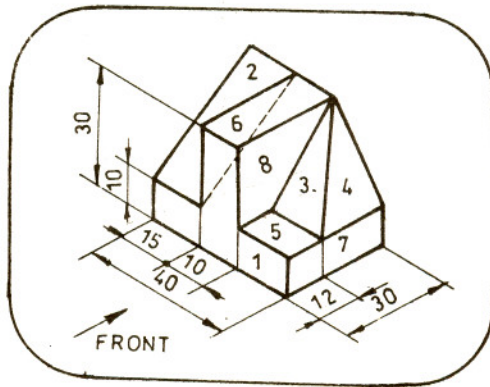

FIG. 2
- Q3 Figure 2 shows the orthographic projections of a solid 10+5
Q. 3, Fig. 2.
Q 3 Fig 2 shows the isometric view of a solid. Draw to a suitable scale in I angle / III angle the following orthographic projections :-